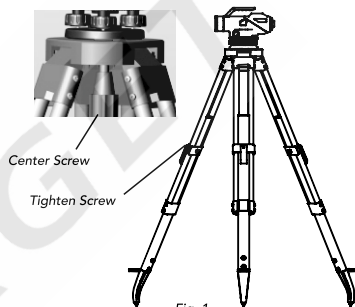

Fig. 1
- Set the instrument and tighten the centering screw. (fig. 1)